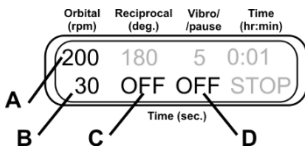

Figure 4.
- 6.9.1 **Orbital motion.** Set the speed (fig. 4/A, 20–250 rpm) and time (fig. 4/B, 1–250 s) of Orbital motion. Turn off Reciprocal motion (fig. 4/C) by setting time of the cycle to zero (OFF). Turn off Vibro motion (fig. 4/D) by setting time of the cycle to zero (OFF).